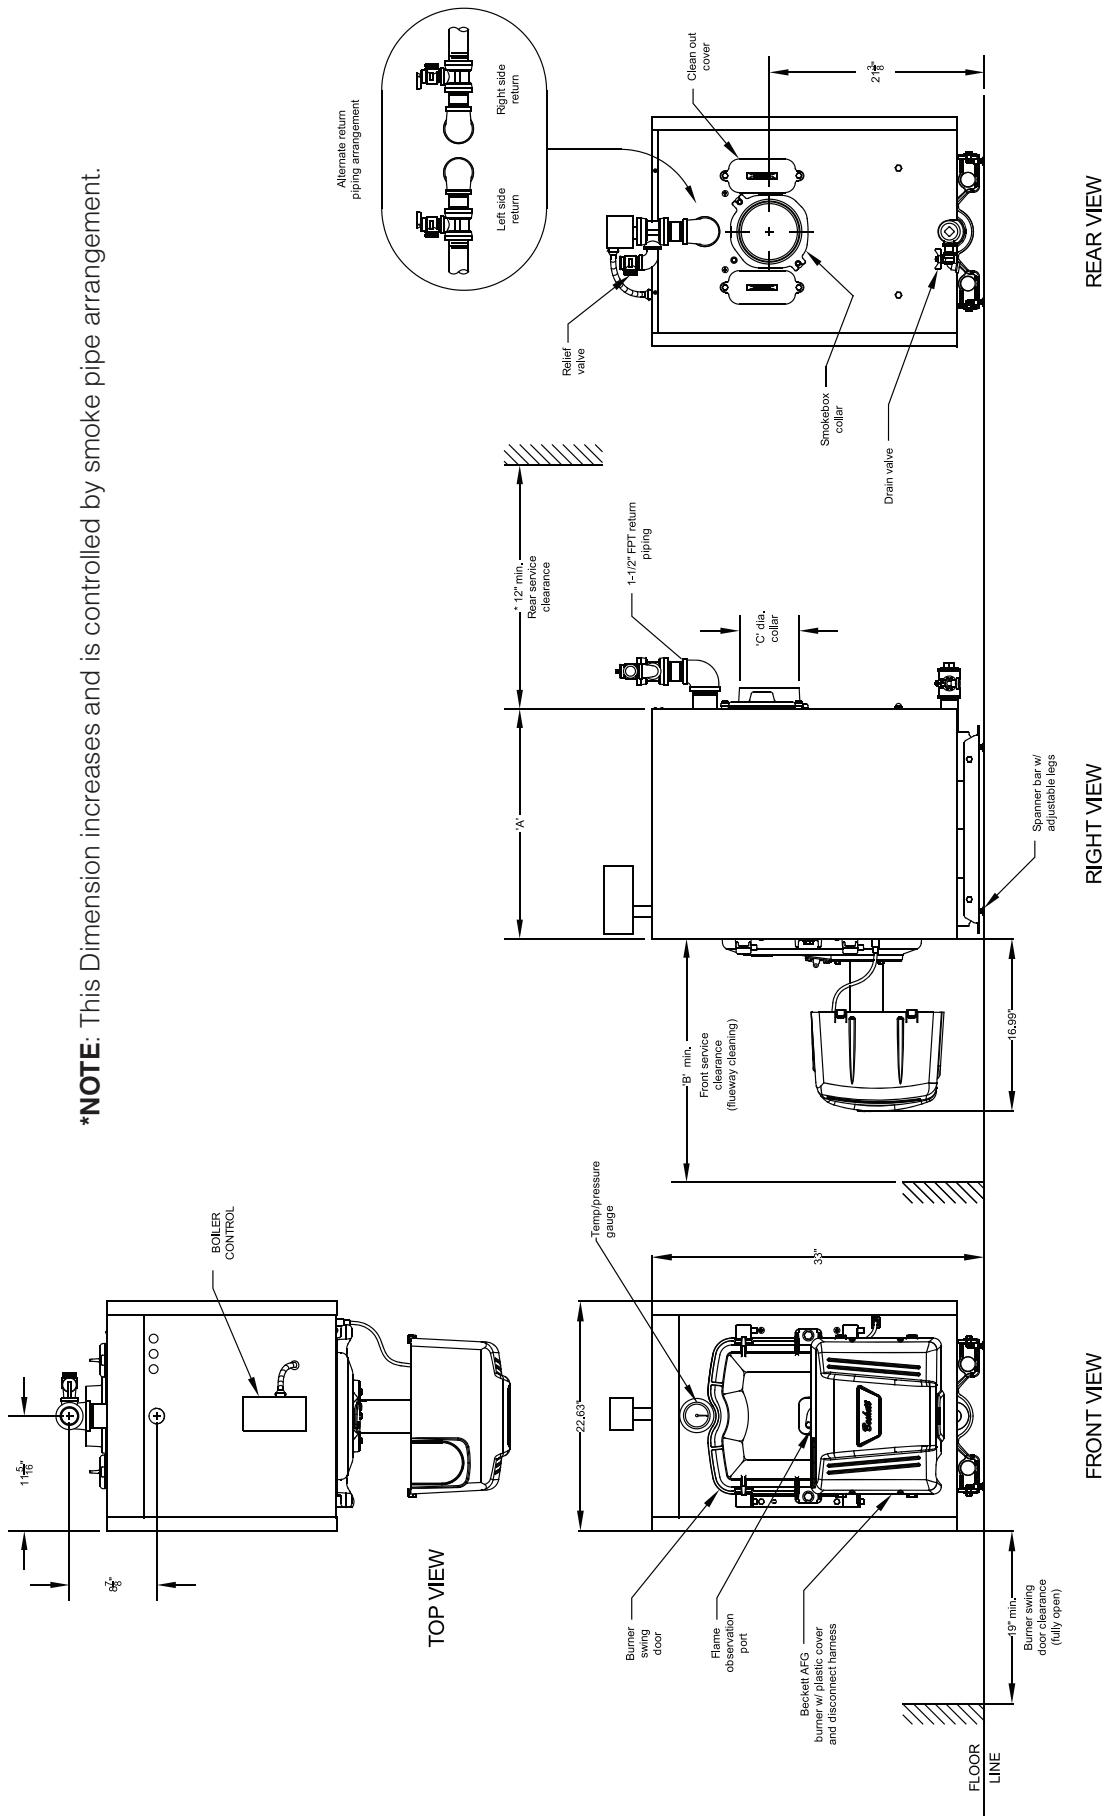

Figure 1: EMP Water Boiler
Table 1A: Dimensional Data (see Figure 1)
2. Any claims for damage or shortage in shipment must be filed immediately against the carrier by the consignee. No claims for variances from, or shortage in orders, will be allowed by the manufacturer unless presented within sixty (60) days after receipt of goods.
B. LOCATE BOILER in front of final position before removing crate. See Figure 1.